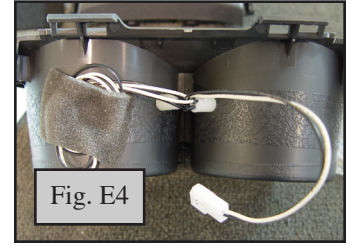

Fig. E4
5. Firmly press LED assembly into lens. (Fig. E4)
6. Use adhesive pad to secure wires. (Fig. E4)